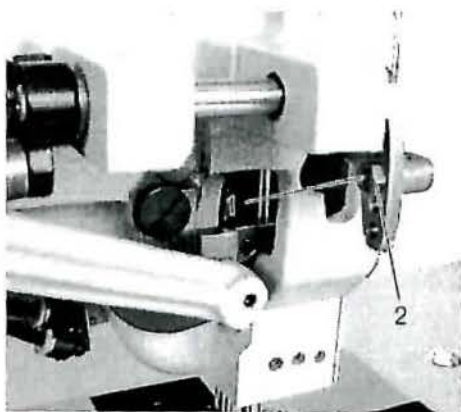

Fig.29
19. ADJUSTMENT OF THE CLEARANCE FOR THE VIBRATING AND LIFTING PRESSER FEET (Fig. 29) (RE-ADJUSTMENT THE TIMING OF THE VIBRATING AND LIFTING PRESSER FEET)